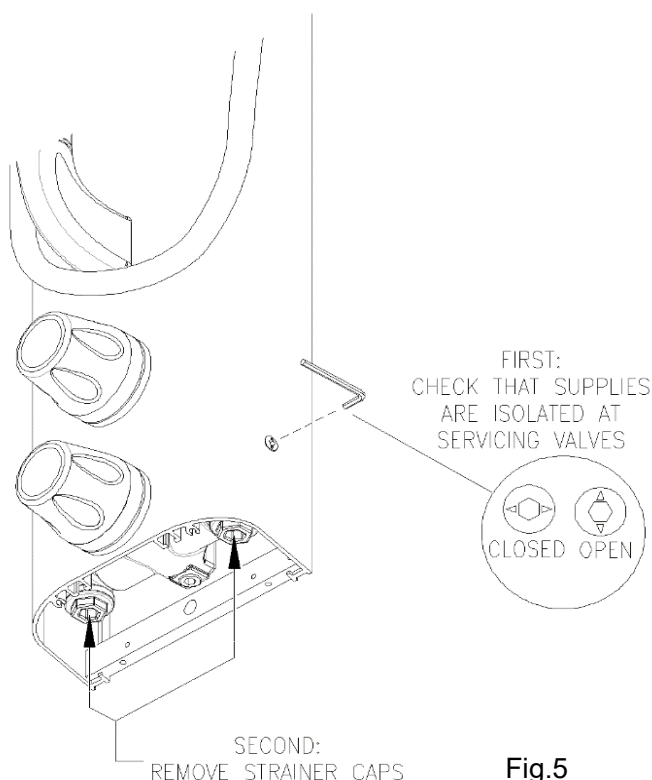

Fig.5
Access to the flushing points is gained from underneath the casing through the lower end cap. Isolate the water using the low-level servicing valves located on the side of the panel (Fig. 5) using a 4mm hex key. Remove the strainer cap with the strainer basket and screw in the flushing adapter. Place the end of the flushing hose in a drain or container and turn on the supply to flush AT FULL BORE until any pipework that has been worked on is cleared. After flushing, remove the flushing adapter and replace the strainer cap. Repeat for both hot and cold supplies. See Fig. 5 and 6.
Ensure that the TSV1-3 on/off control is closed (turned fully clockwise) and open the supplies. Open the servicing valves on the TSV1 casing (See Fig. 5). Open the supplies to the panel, adjust the temperature control and check for any water leaks upstream of the thermostatic valve. Make good any leaks found. The valve is now ready for commissioning.
2.5.1 Finally, check the thermal shut-off facility of the TSV1-3 by performing a Cold Isolation Test (sometimes colloquially called a “fail-safe” test) as follows. With the shower running full, close the cold (i.e. right side) servicing valve. [The Servicing Valve is closed when the arrows are in the horizontal position, and open when they are in the vertical position: see Fig. 5]. If there is any flow after 5 seconds, this must amount to no more than 120ml in 60 seconds of collecting. If there is more than this amount, find possible corrective actions in the “Maintenance” section below. If the Cold Isolation Test is satisfactory, restore the supply and note the final stabilised temperature in the commissioning log. This should be within 2°C of the original temperature, and must not exceed 43°C. Generally, the mixed water temperature should not rise by more than 2.9°C during this cold-water isolation test. Record the result of this on the attached commissioning sheet.